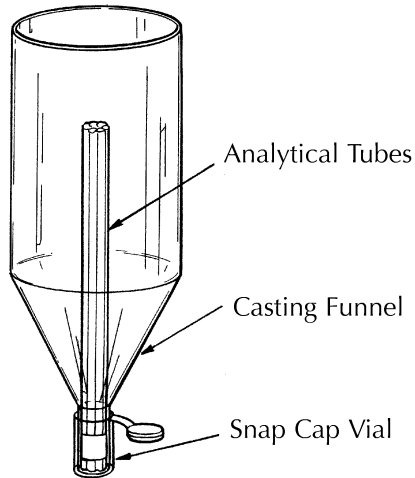

Figure 3. Capillary Tubes Added to Casting Funnel and Snap Cap Vial
5. Guide the small end of the 1-D casting funnel over the tops of the tubes and press the snap cap vial onto the assembly, as shown in Figure 3.